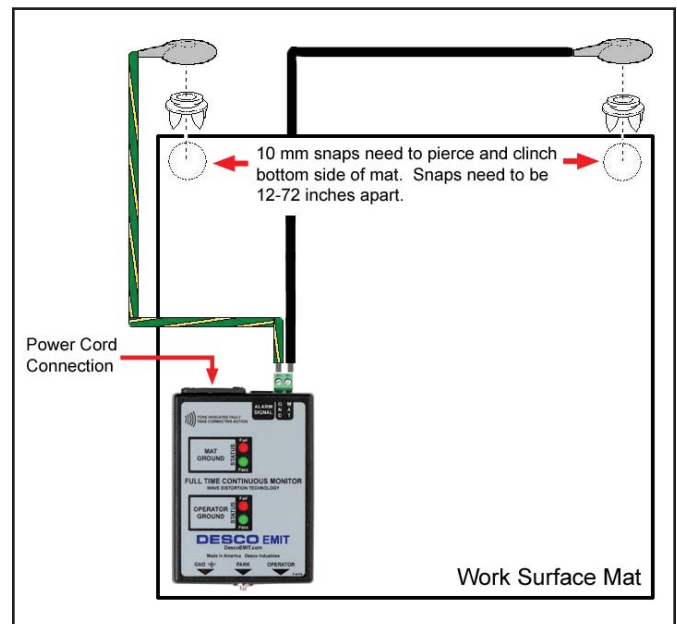

Figure 3. Installation of the Full Time Continuous Monitor
- I. The Full Time Continuous Monitor may be mounted to a convenient location using the included the Velcro® set. It is normally mounted toward the front edge of a workstation where the LEDs are easily visible. See Figure 3 for installation set-up.
- The worksurface resistance is measured between the two snaps installed to the mat worksurface (See Figure 3).